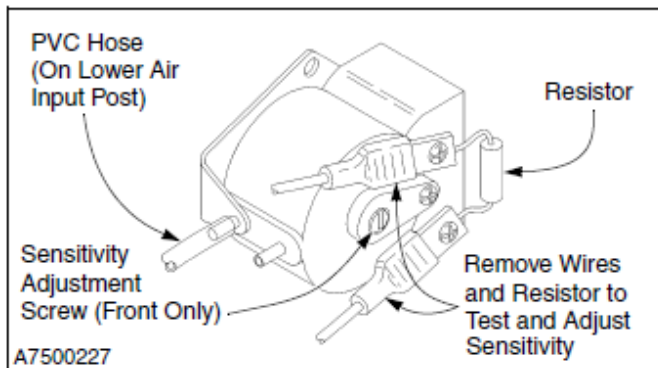

Figure 48
1. The reversing edge switch is a normally-open contact. The PVC hose is on the lower air input post. To adjust the switch, first remove the wires and resistor from the contact terminals and attach an ohmmeter across the two terminals. (See Figure 48)
2. Turn the adjustment screw, located on the face of the switch, clockwise or counterclockwise until continuity is achieved. Ohmmeter should no longer show continuity. Turning the screw counterclockwise decreases sensitivity. Turning the screw clockwise increases sensitivity. (See Figure 48)